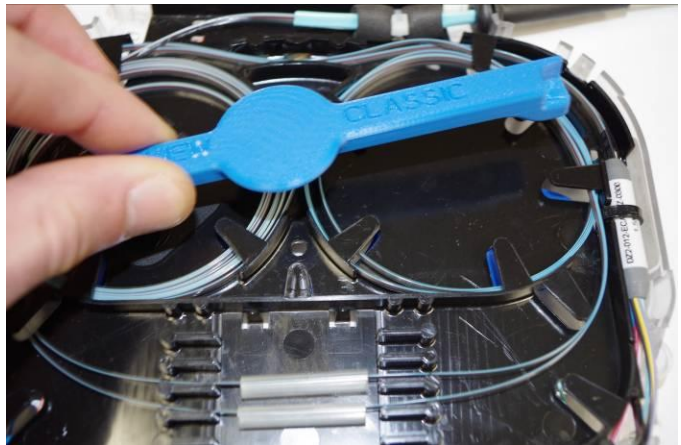

Figure 7
- Step 7:** Once the silicone dries, remove the ribbon fiber management tool from the cassette (**Figure 7**).